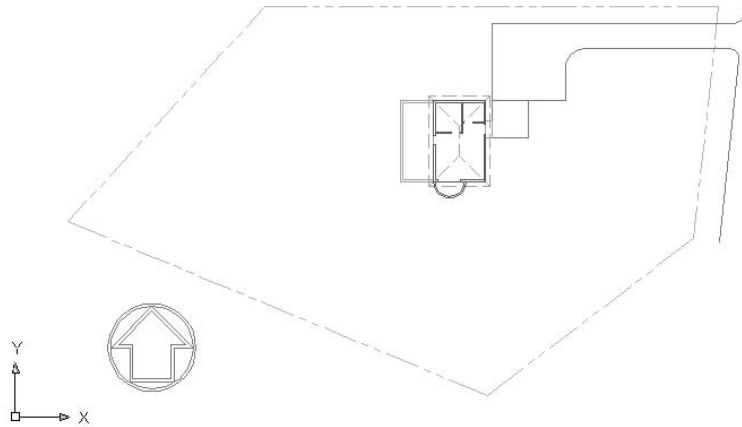

FIGURE 12.18: The Site12b drawing with the revised Xref of the cabin
9. Zoom to Extents, and then zoom out a little to a view of the whole site (see Figure 12.18). Save this drawing. It is still named Site12b.